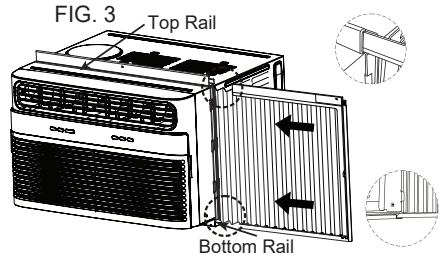

FIG. 3
C. Once the panel has been installed on the side of the cabinet, make sure it sits securely inside the frame channel by making slight adjustments. Slide the top and bottom ends of the frame into the top and bottom rails of the cabinet. See FIG. 3.